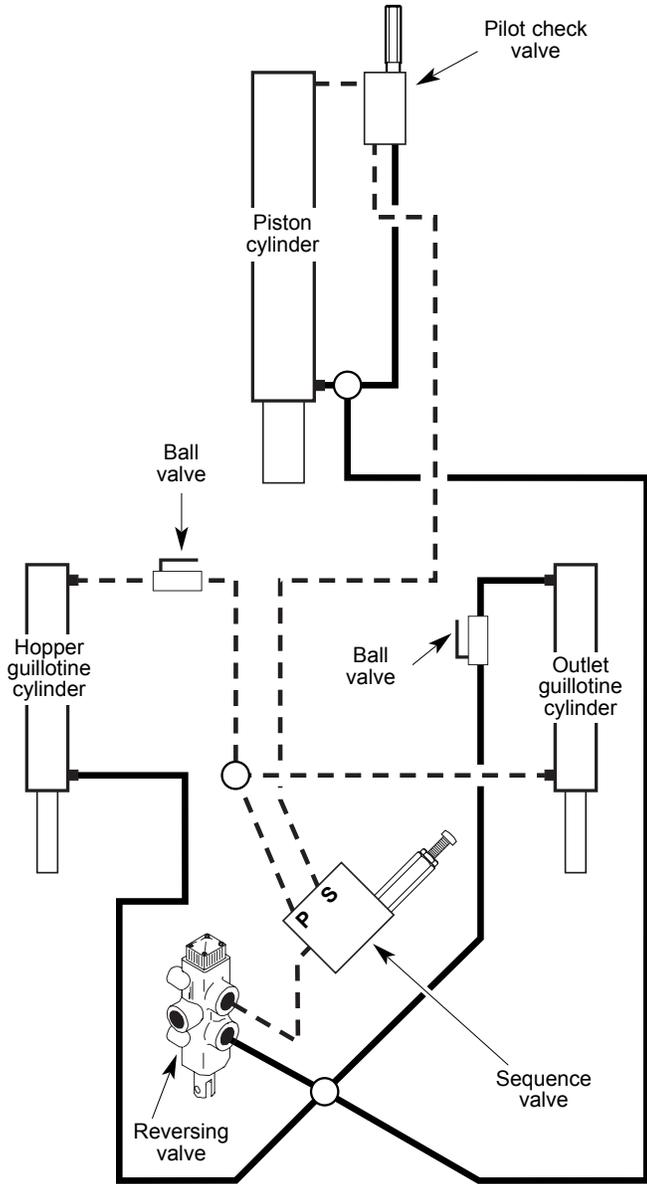

fig. 6
- The upper part of the outlet guillotine cylinder to close it — *fig. 6*.
- The bottom part of the hopper guillotine cylinder to open it — *fig. 6*.
- The siphoning cycle inlet port of the pilot check valve which unlocks the pressure in the upper part of the main piston cylinder allowing it to stroke upward — *fig. 6*.
- The bottom part of the piston cylinder to lift the piston — *fig. 6*.
**Step 2:** Since the siphoning cycle inlet port of the pilot check valve needs more pressure to unlock than both guillotine cylinders need to operate, the hydraulic pressure will first close the outlet guillotine and open the hopper guillotine — *fig. 6*.
**Step 3:** Once both guillotine cylinders have reached the end of their stroke, the hydraulic pressure increases and enters in the siphoning cycle inlet port of the pilot check valve to lift the check ball which allows the oil contained in the upper part of the piston cylinder to return to the hydraulic power unit — *fig. 6*.